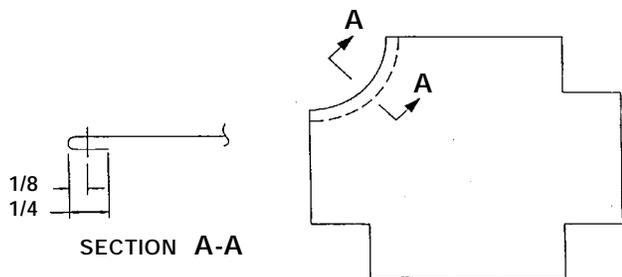

Figure 13. Sew Curved Area
c. Sew curved area per Figure 13.